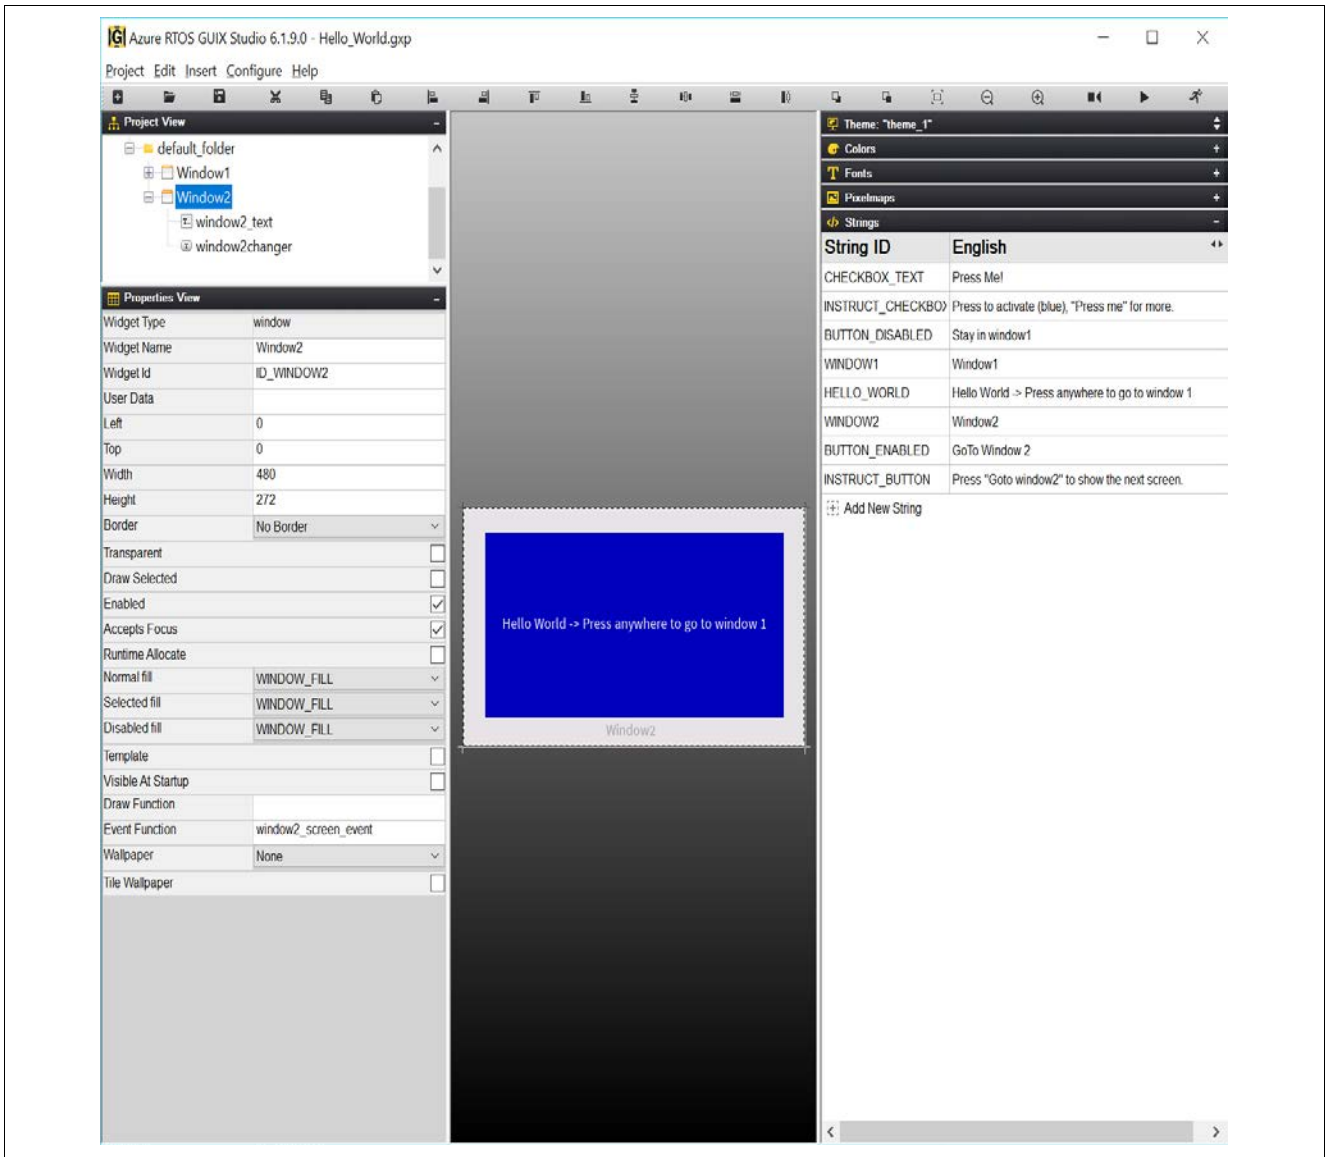

Figure 71. Window2
18. Follow all these concepts to create **Window2**. After you are done, then you should have **Window2** as shown in Figure 71.